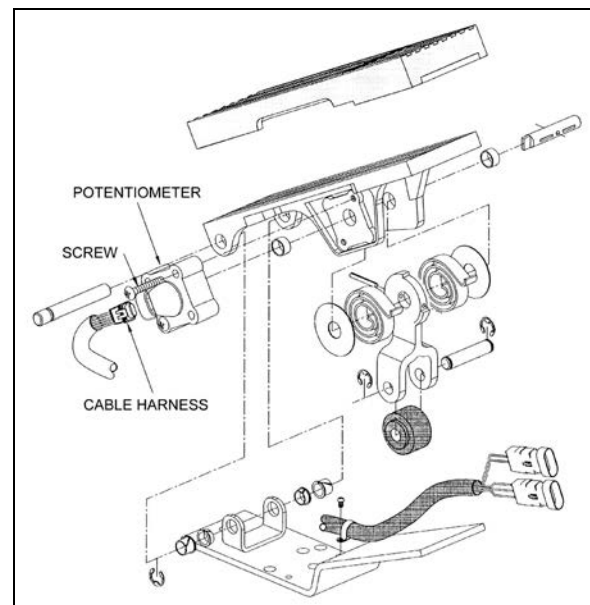

FIGURE 13: ELECTRONIC FOOT PEDAL ASSEMBLY⁰³⁰³⁵
3. Discard potentiometer (Fig. 13).
4. Position new potentiometer. Press potentiometer onto the potentiometer shaft, matching cutouts in shaft to drive tangs of potentiometer. Apply hand pressure until potentiometer has bottomed out in housing. Reinstall screws (Fig. 13) and tighten just enough to secure potentiometer lightly. Tighten screws to 10 - 20 Lbf-in (1.5 - .2 Nm).